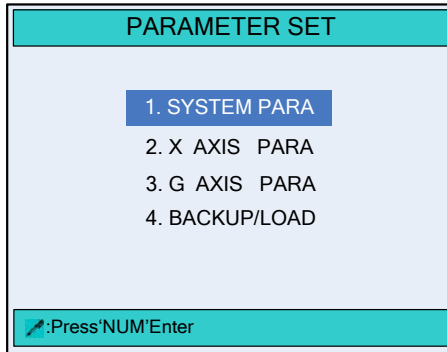

Figure 3-4 The PARAMETER SET page
Step 3 Move the cursor to parameter **mm/inch** or **中文/English**, enter the password **14789**, and press  to enter the **PARAMETER SET** page, as shown in Figure 3-4.